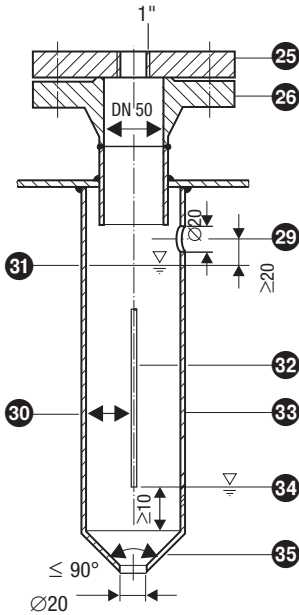

Fig. 7
- Make sure that the air distance between the electrode tips and earth (flange, vessel wall) is not less than 14 mm! **Fig. 7, 8**